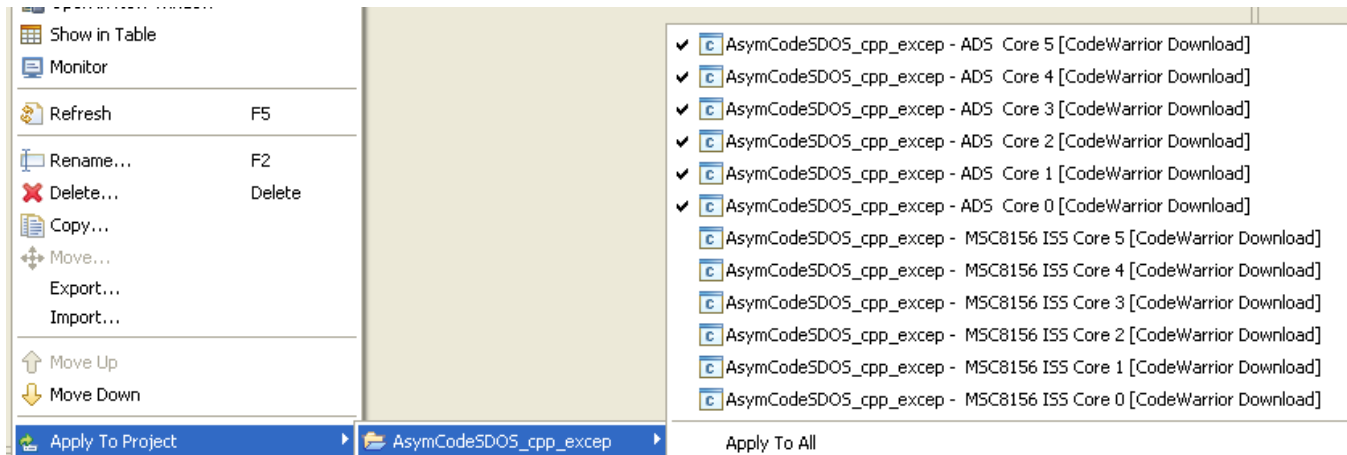

Figure 5. Apply Existing Remote System to Launch Configuration
- In the drop down menu select **Apply to Project** > {ProjectName} and select each ADS related launch configuration (Figure 5).